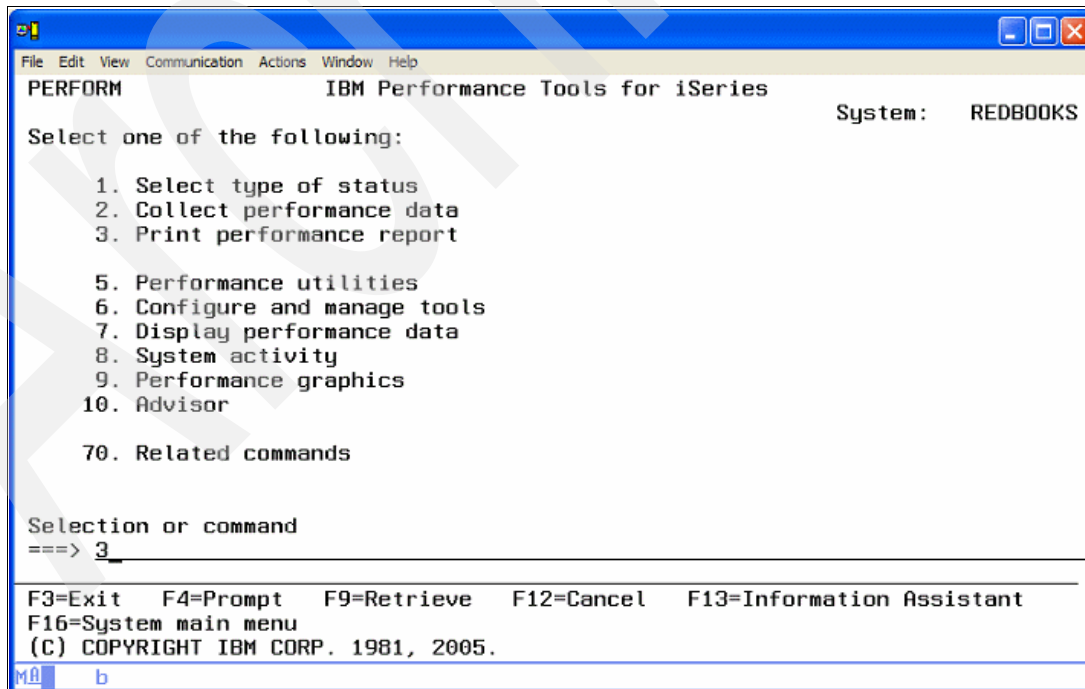

Figure A-19 Performance Tools main menu
2. On the IBM Performance Tools for iSeries panel (Figure A-19), select **3. Print performance report**.